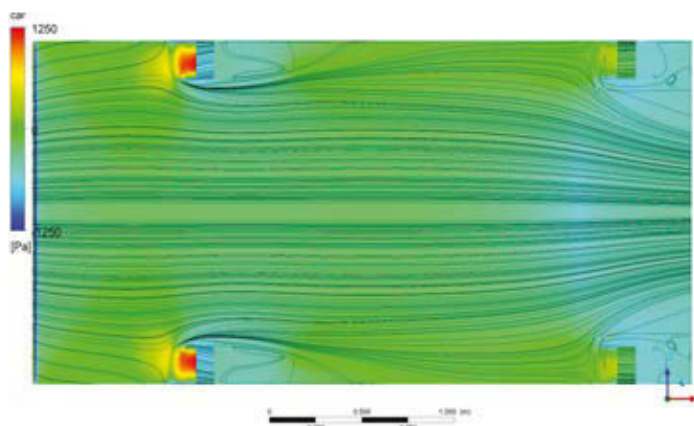

Figure 6: Streamlines show flow directions with the shallowest diffuser
**Figures 6** and **7** show the 2-degree and 14-degree cases from underneath with surface streamlines plotted, and the difference in the amount of lateral convergence in the flows was very marked. Much